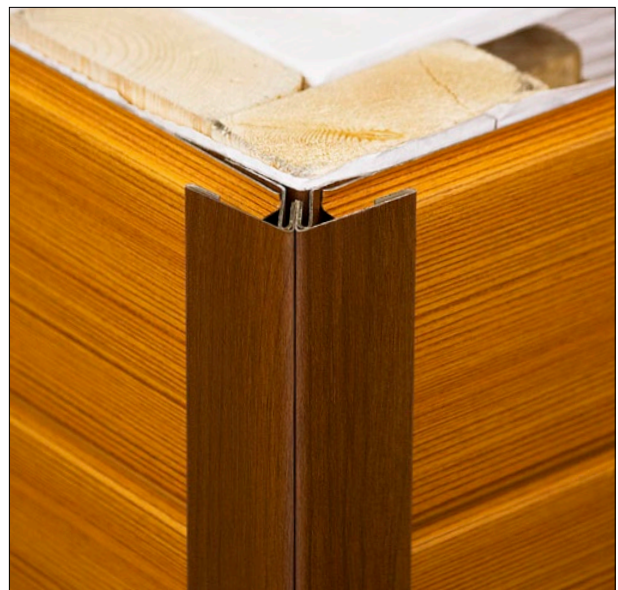

Fig.75
Step 6: Place the other end of the Snap T corner in the channel and apply pressure until snug (Fig.75).